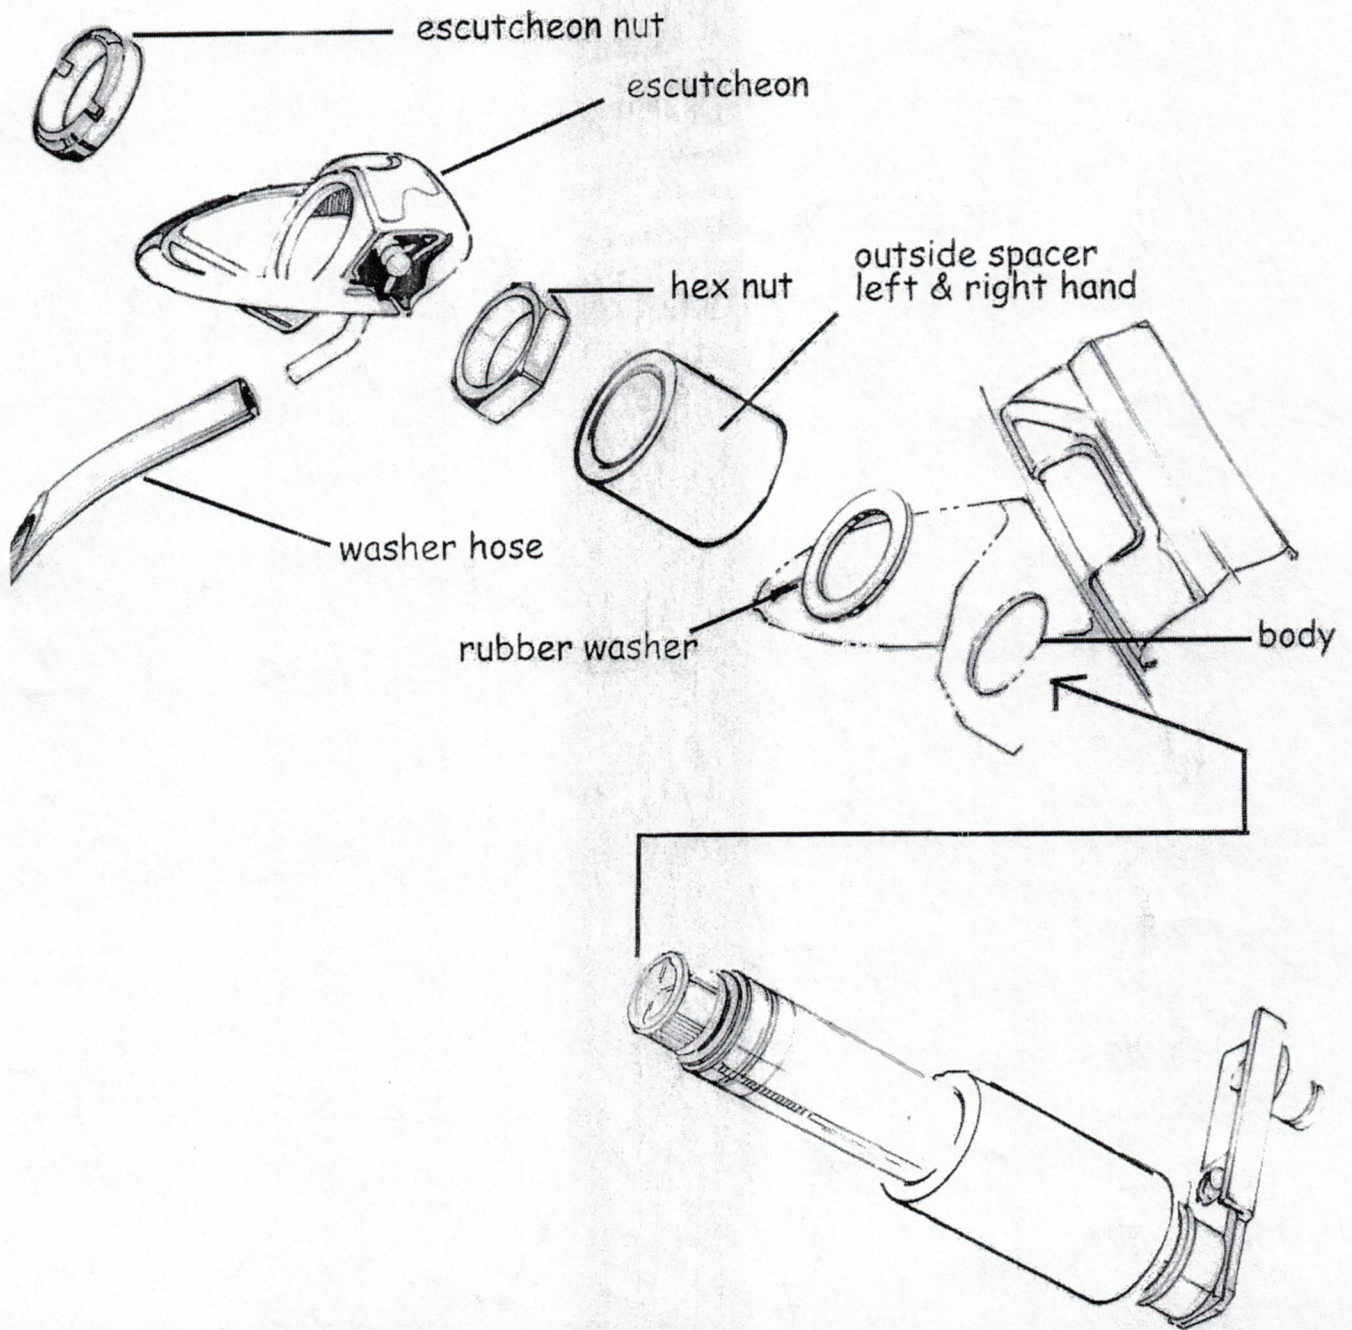

FIGURE 5 PASSENGER SIDE PIVOT SHAFT
- Install the molded bushings in the link ends. Note that they go with the flange toward the pivot shaft and are a very tight fit. See figure 5.
- Assemble the extended end of the long link (See figures 5&6) to the pivot fitting on the right hand pivot shaft using the bushing, washer and clip provided. *Note that the bushing must be installed with the shoulder against the pivot fitting and freely turn on the drive pins. (Grease pins.)*